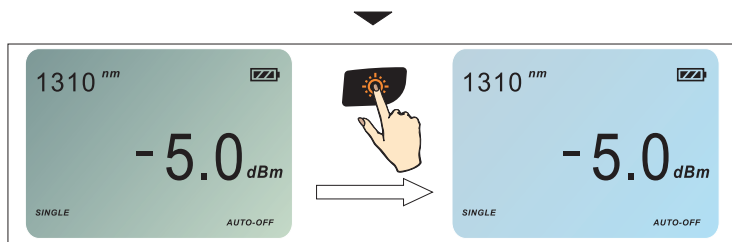

Figure 4-7. Switching backlighting on and off.
1. Press the  key. (See Figure 4-7.) Backlighting switches on.